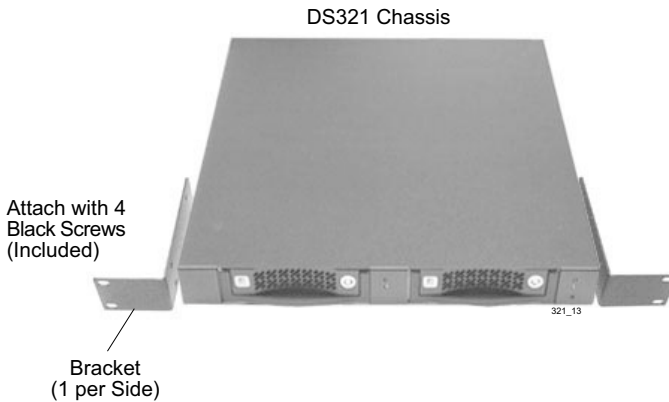

*Figure 6: Desktop Conversion*
3. Peel paper backing off rubber feet (4 total) and press into place (location indicated by "L" marks) as shown in Figure 6.